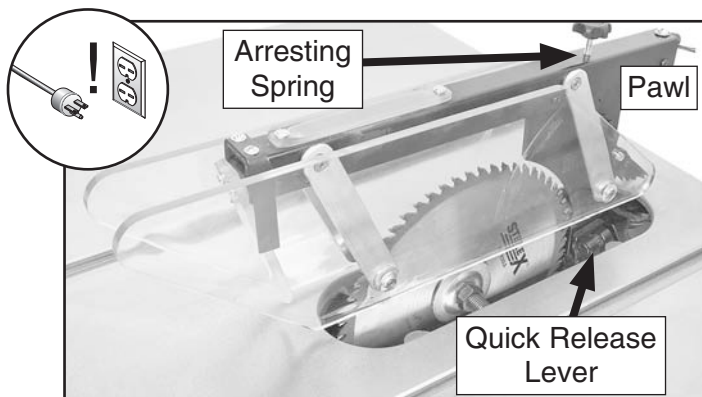

Figure 44. Spreader installed (*insert removed for clarity*).
- Flip the quick release lever up, insert the spreader into the spreader adjustment bracket, then push the lever down completely to secure the spreader (see **Figure 44**).